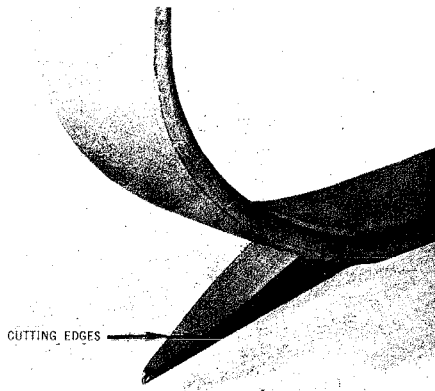

Fig. 17—Gaff Cutting Edges
- 7.01 During normal use of climbers the edges along the inner surface (cutting edges), Fig. 17, may become dull. The honing stone should be used to maintain sharp edges. Remember that even a dull gaff can cut your finger, so hone carefully.